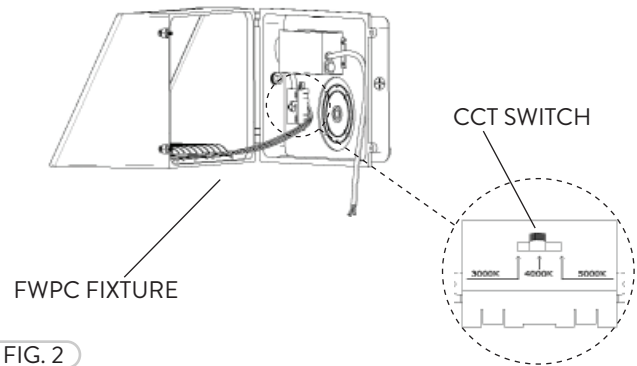

FIG. 2
② The Selectable CCT Switch is a device that allows the user to choose a desired color temperature 3000K, 4000K, 5000K (Fig. 2). After the selection is made close the Back Cover and tighten the Screws.